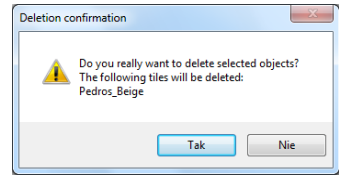

Fig. 380 – request for confirmation of removing a tile from the user database
- **Delete selected object** – deletes the selected tile, collection or collection type (also under <Del>); each time a request for confirmation, that the selected element is to be deleted will be displayed, because it is not possible to undo this action (Fig. 380);